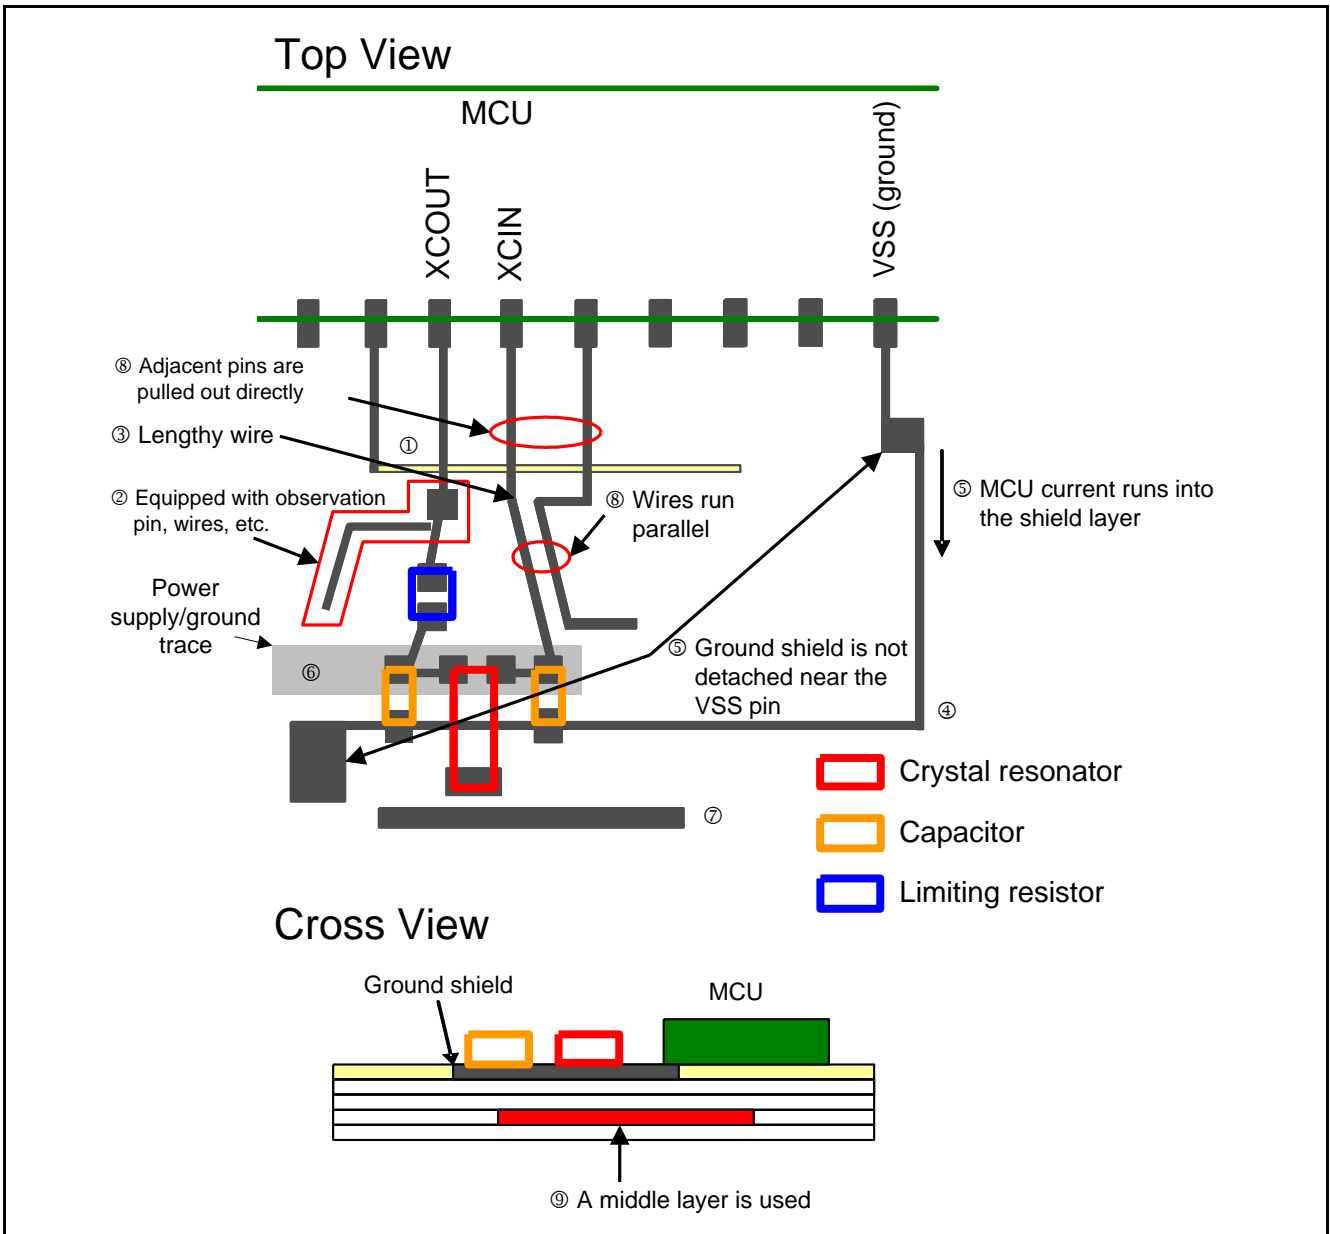
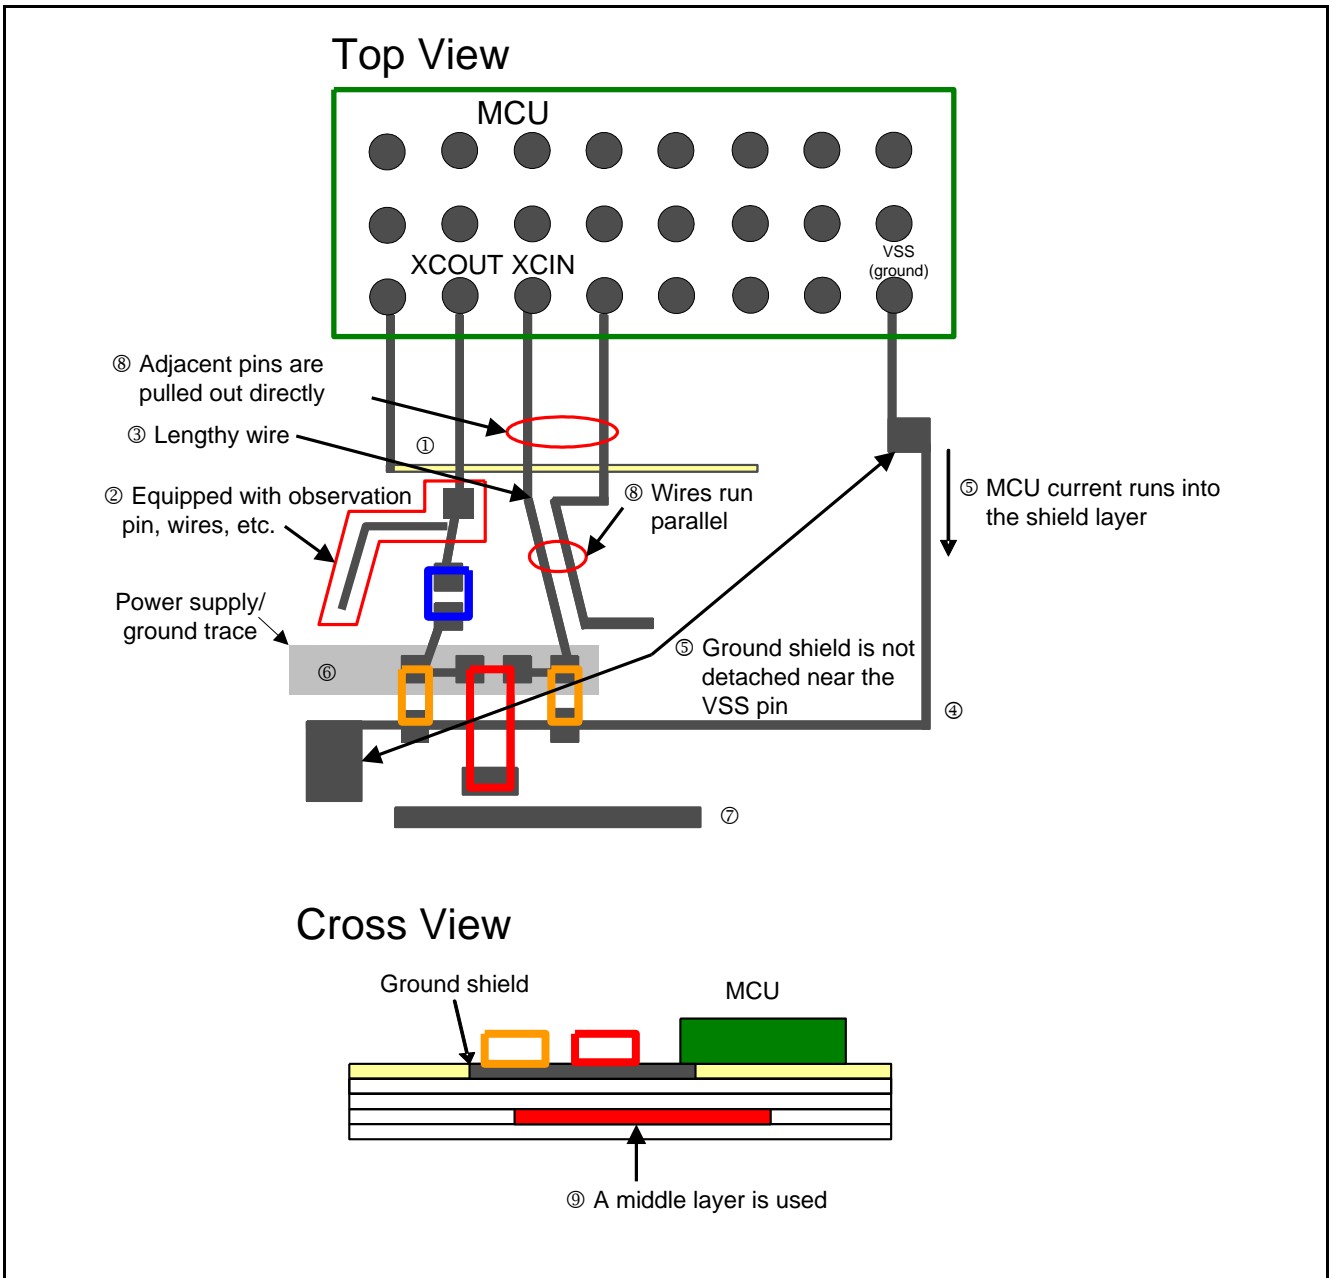

Figure 1.13 Trace Example Showing a High Risk of Erroneous Operation Due to Noise When Using the LQFP, LFQFP, and HWQFN Packages
Figure 1.14 Trace Example Showing a High Risk of Erroneous Operation Due to Noise When Using the WFLGA and TFLGA Packages
Do not lay out traces described in ① through ⑨. Laying out the traces below may cause the 32.768 kHz crystal to operate erroneously. Figure 1.13 and Figure 1.14 show trace examples.
- ① XCIN and XCOU wires cross other signal wires (risk of erroneous operation).
- ② Observation pins are attached to XCIN and XCOU (risk of oscillation stopping).
- ③ XCIN and XCOU wires are long (risk of erroneous operation or decreased accuracy).
- ④ The ground shield does not cover the entire area, and where there is a ground shield, the wiring is long or narrow (easily affected by noise, and there is a risk that accuracy will decrease due to the ground potential difference generated by the MCU and external capacitor).
- ⑤ Ground shield is not detached near VSS pin (risk of erroneous operation due to MCU current flowing to the ground shield).
- ⑥ Power supply or ground trace are under the XCIN and XCOU wiring (risk of losing the clock or oscillation stopping).
- ⑦ A wire with a large current is routed nearby (risk of erroneous operation).
- ⑧ Parallel wiring for adjacent pins is close and long (risk of losing the clock or oscillation stopping).
- ⑨ The middle layers are used (risk of oscillation characteristics decreasing or signals operating erroneously).